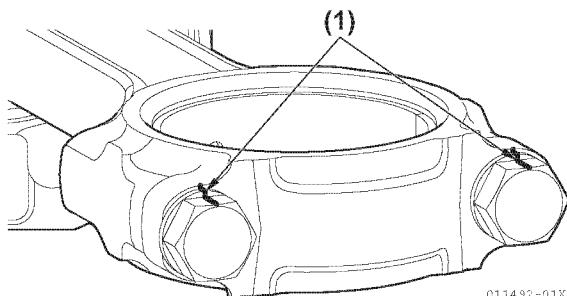

Figure 5-101
- If a torque wrench is not available, make match marks on the bolt heads and rod cap (to indicate the proper torque position) and retighten the bolts to those positions (**Figure 5-101**).